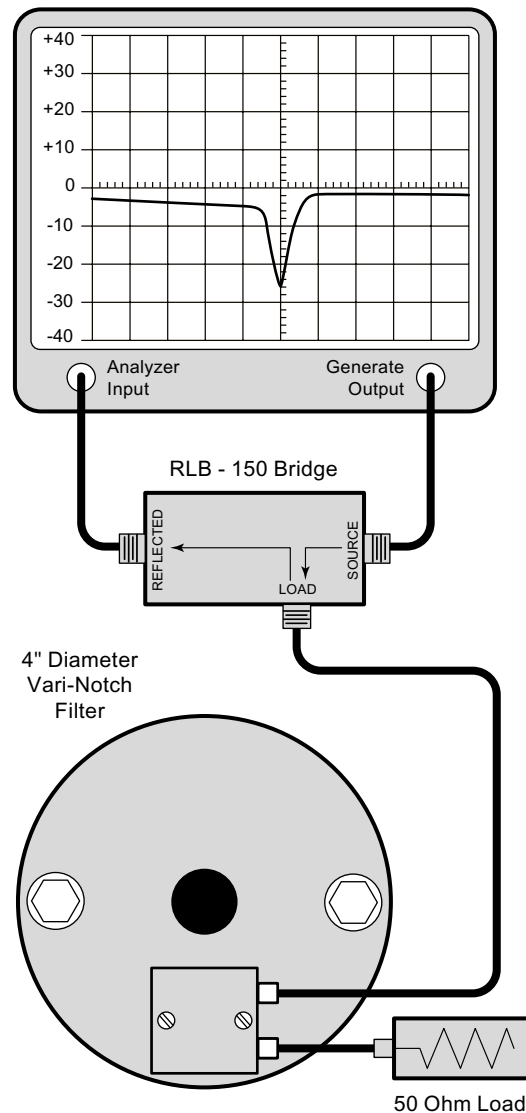

Figure 4: Checking the passband.
7. Connect the "load" port on the RLB to one of the input /output ports and make sure the remaining port is connected to a 50 ohm load; refer to **Figure 4**. The display will now present the return loss curve for the 4" Vari-Notch filter being measured. **The passband is that frequency range over which the return loss is 15 dB or greater.**